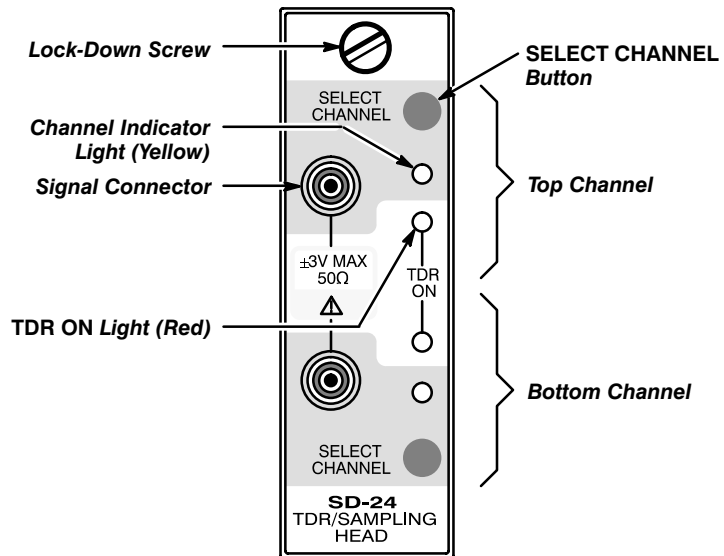

Figure 4: Sampling Head Front Panel
- Figure 4: Sampling Head Front Panel 11
Figure 4 shows the front panel of the SD-24 TDR/Sampling Head and identifies the buttons, lights, and connectors.